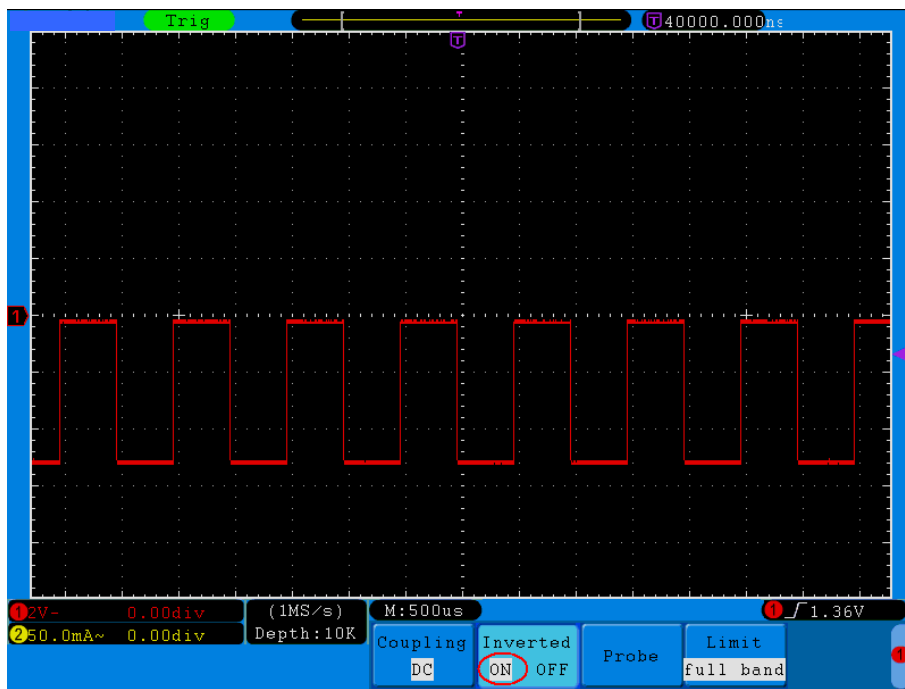

Figure 5-6 Inverted Waveform
- (1) Press the **CH1 MENU** button to show the **CH1 SETUP** menu.
- (2) Press the **H2** menu selection button and select **ON** for **Inverted** item. The waveform is inverted as it is shown in *Figure 5-6*.